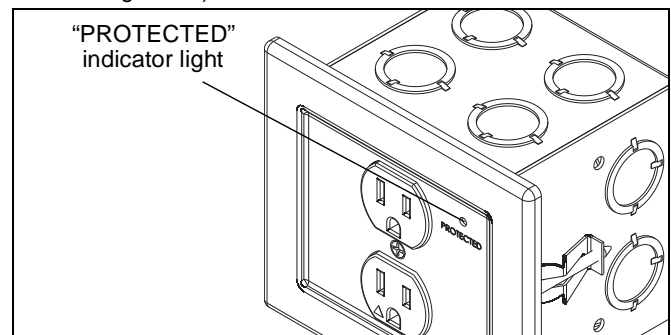

Figure 17
**NOTE:** The "PROTECTED" light indicates that the surge protection circuitry is active and operational. (See Figure 17)